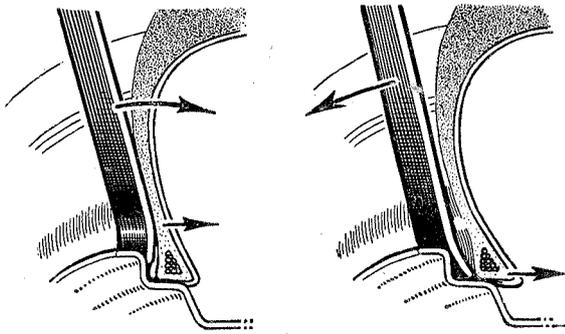

Fig. O.6. Removing a tyre bead off the rim.
- (1) Lay the wheel on the ground, with the valve uppermost. Deflate the tyre by removing the valve cap and interior.
- (2) Using tyre levers, which must be in good condition, separate the beads from the rim flange in the manner shown in Fig. O.6 until both beads are in the base of the rim. As inextensible wires are incorporated in the edges of the tyre, no attempt should be made to stretch the edges over the rim as the beads must in **NO WAY BE DAMAGED**. Keep the levers moistened with water.
- (3) With the bead of the tyre held in the base of the rim at a point diametrically opposite the valve, insert a lever close to the valve and carefully lift the tyre over the rim. Using two levers at intervals of about 6 in. (15 cm.) apart, continue to lift the tyre bead over the rim until this bead is entirely free.